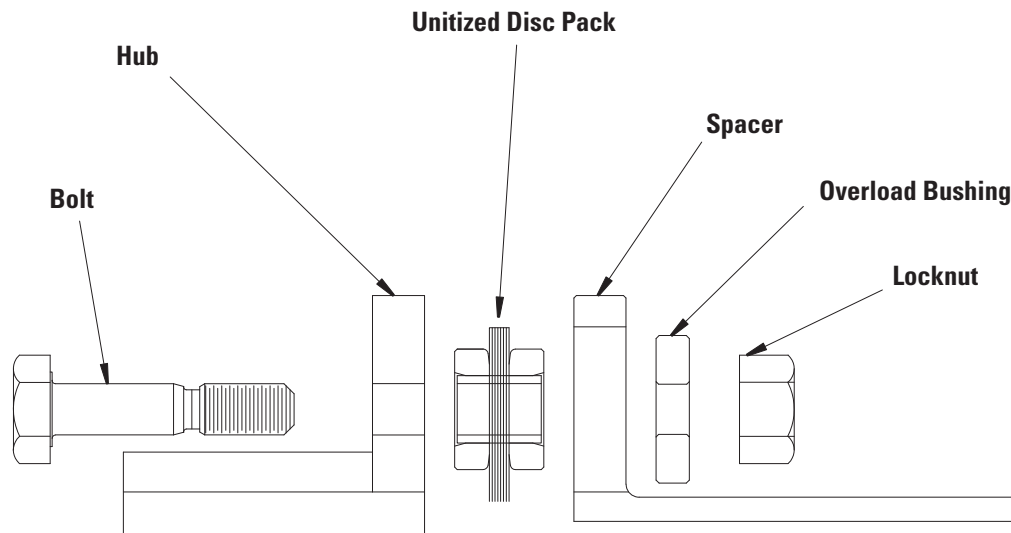

Figure 11
CAUTION! When aligning bolt holes ensure that at each bolt hole position one of the bolt holes in the flanges is the small fitted bolt hole and the other one in the opposing flange is the large clearance hole as shown in Figure 11.
- 8.7 Slightly tighten all locknuts using an alternating progressive pattern on each disc pack as shown in **Figures 11, 12 and 13** making sure the disc pack is not distorted and all the bolts are fully seated. Tighten each locknut to the appropriate torque value shown in **Table 6**, using an incremental torque in a progressive alternating pattern as shown in **Figures 11, 12 and 13**.